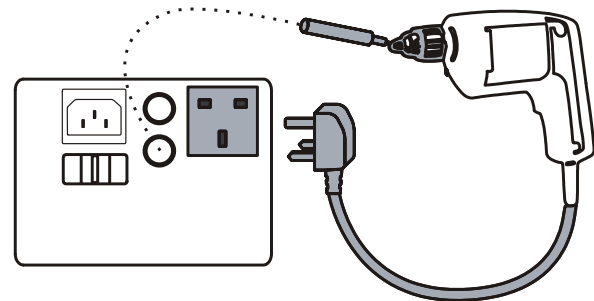

Figure 6. Substitute Leakage Current Connections
- 1  Connect the appliance and the probe as indicated on the tester, see also Figure 6.